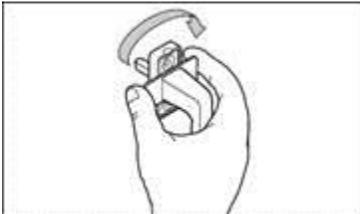

Figure 1 How to uncover the screw holes
1. Pull the handle-base screw cover towards you and rotate it 90° to uncover the screw holes. See *fig. 1*.